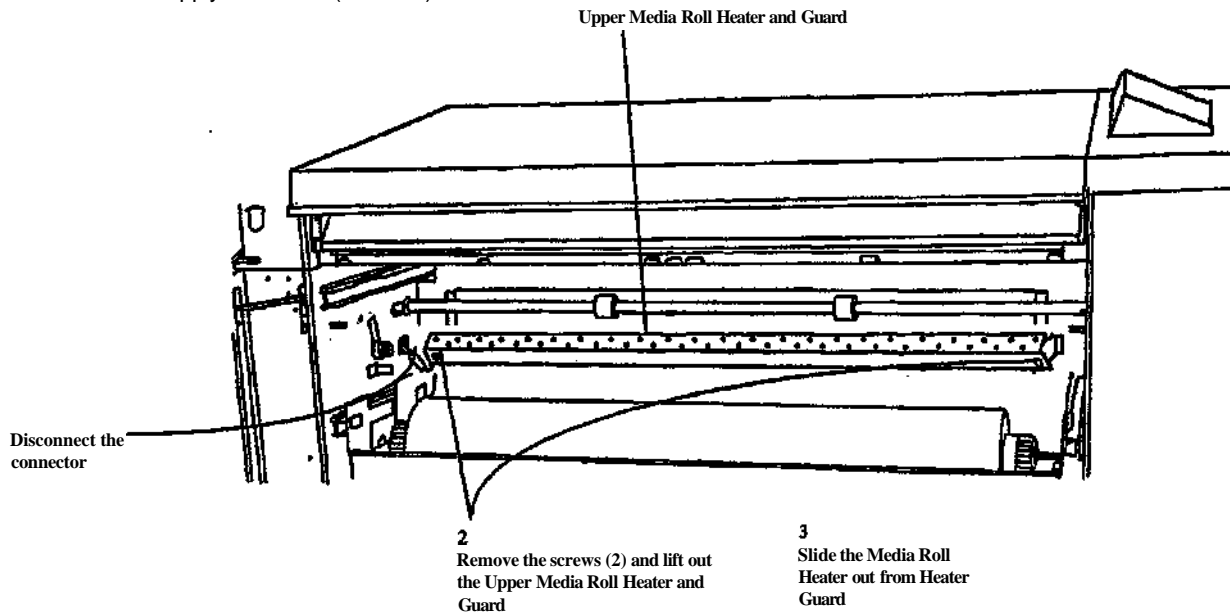

Figure 1. Removing the Upper Media Roll Heater
2. (Figure 1): Remove the Upper Media Roll Heater.